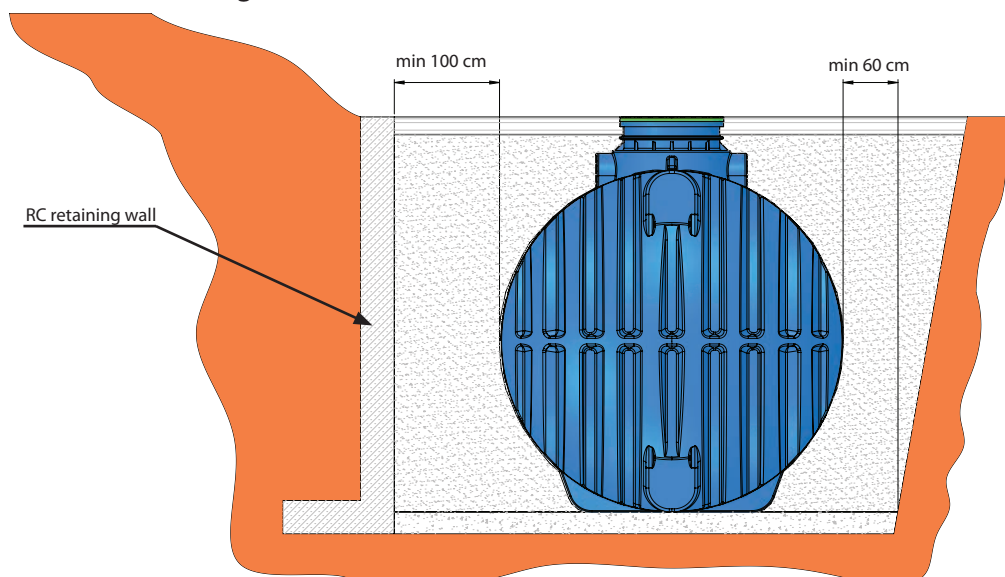

Figure 14: Installation of the tank in unstable slopes
If an unstable area is selected for the installation of the AQUAstay tank, it is necessary to ensure that the installation conditions are such that the tank is not affected by ground pressures and landslides. This is ensured using appropriate reinforced concrete (RC) retaining walls – see Figure 14. The dimensions of the retaining wall, the amount of reinforcement and the appropriate drainage are determined by the authorised structural designer.